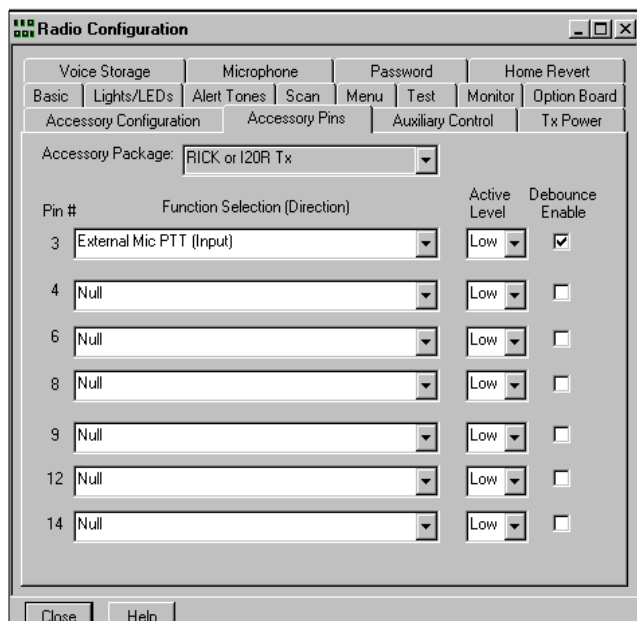

Figure 10-5. Radio Configuration, Accessory Pins, Transmit Radio
9. Select “RICK or I2OR Tx”. Verify pin 3 is defined as “External Mic PTT (Input)”, Active Level “Low”. Your screen should appear similar to Figure 10-5.